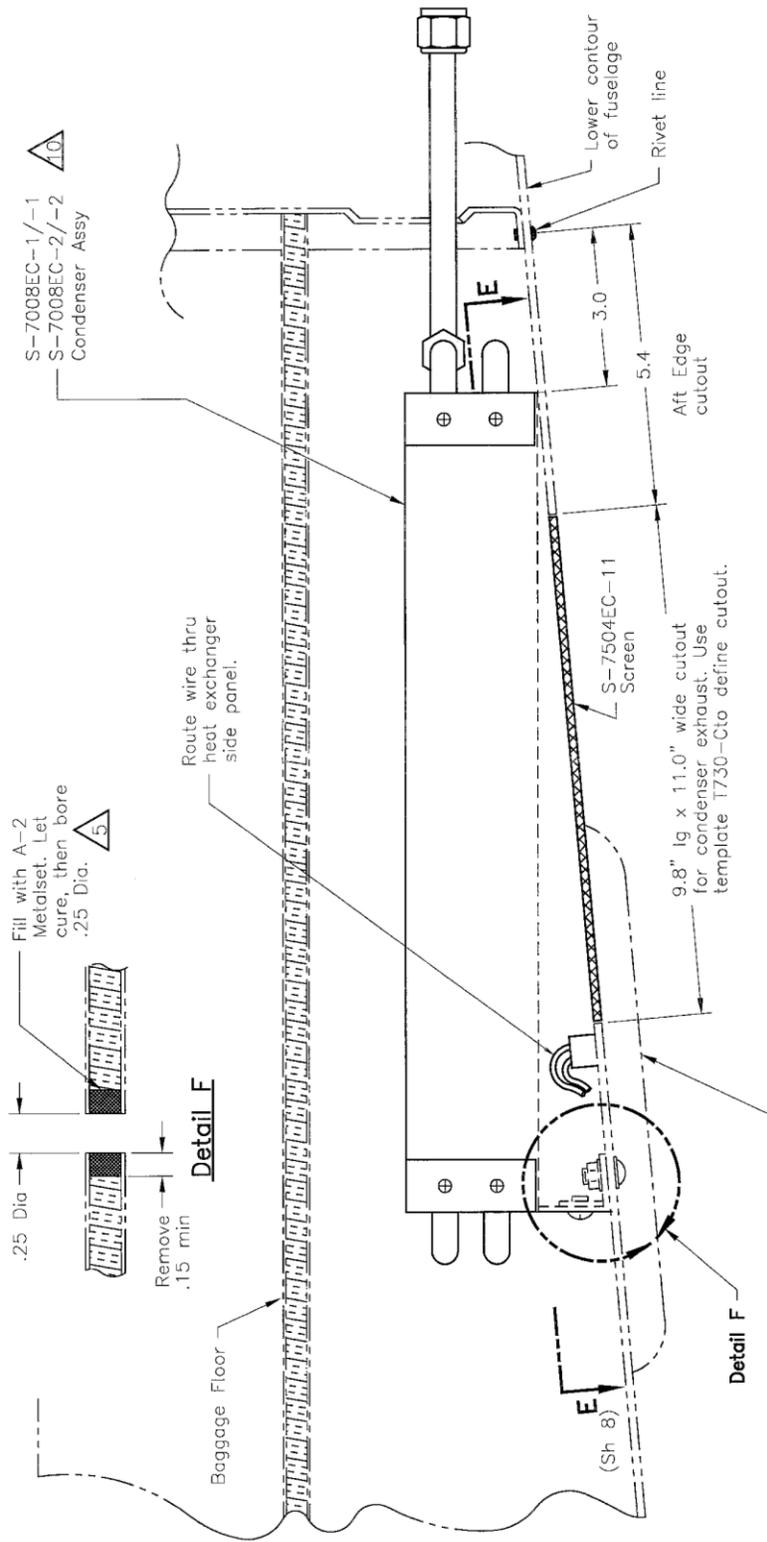

Figure 17: Condenser Install - View E-E
12. REMOVE AND REPLACE CONDENSER HEAT EXCHANGER (Figure 17).